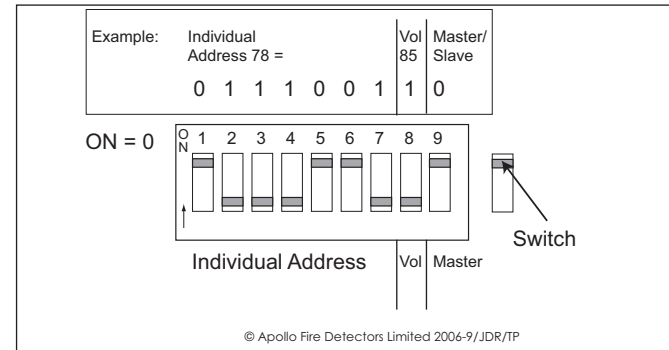

Fig 2
The address of the base sounder is set using seven segments of the nine-segment DIL switch (Fig 2). Segments 1-7 of the switch are set to "1" or "0" (ON), using a small screwdriver or similar tool. A complete list of address settings is shown below.